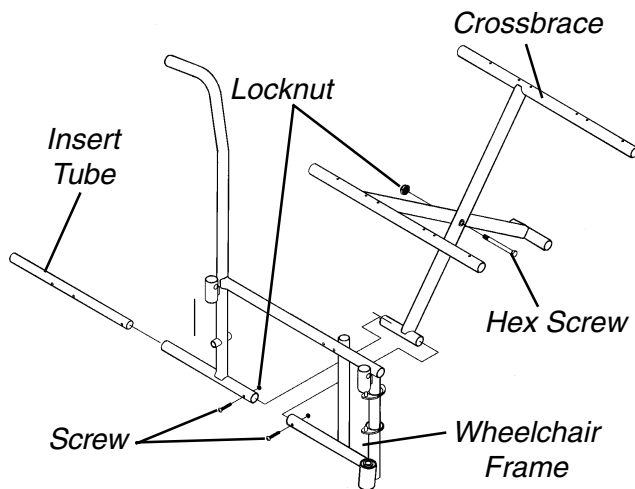

FIGURE 4 - REMOVING LOWER MOUNTING HARDWARE
**Removing Lower Mounting Hardware (FIGURE 4)**
2. Remove the four (4) screws and locknuts that secure the insert tube to the lower wheelchair frame.
4. Remove the hex screw and locknut that secure the two (2) existing crossbraces together.